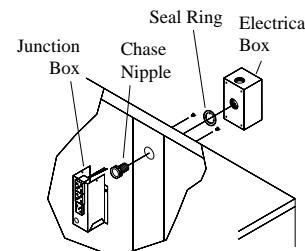

Fig. 5
- Install weatherproof switch box.** Located inside the unit in a plastic bag is a switch box and cover, a chase nipple, a seal ring and a toggle switch. Remove the electrical junction box (Fig. 5) which is mounted on the inside of the center panel. From inside the unit, insert the chase nipple through the electrical access hole. Slide the seal ring over the chase nipple. Mount the switch box to the outside of the unit by threading the chase nipple into the switch box. Run the three switch leads through the nipple and into the switch box and reinstall the junction box. Connect the green ground lead to the ground screw in the switch box.